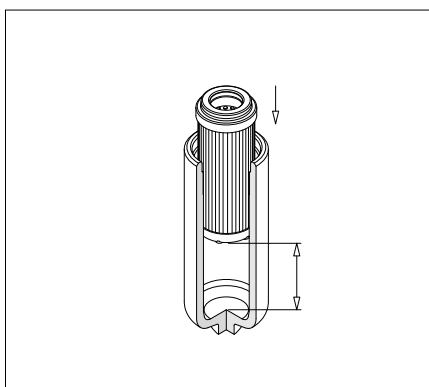

fig. 4
- (Fig. 4) Partially insert the filter element into the bowl, leaving it out about 50 millimetres [2 inches] to grab the cap